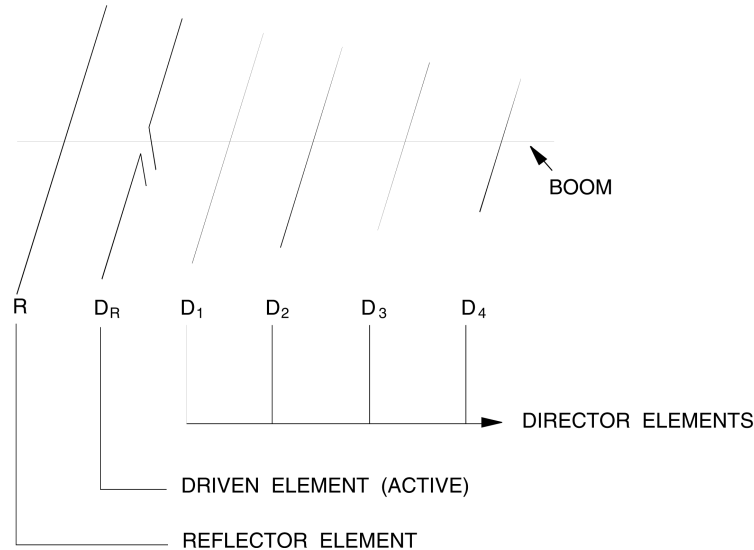

Figure 9. Six-element Yagi antenna
- an **active antenna element** or **driver** element connected to a feed network. This can be a half-wave dipole as in Figure 9, but it can also be another type of element such as a folded dipole or a loop antenna.